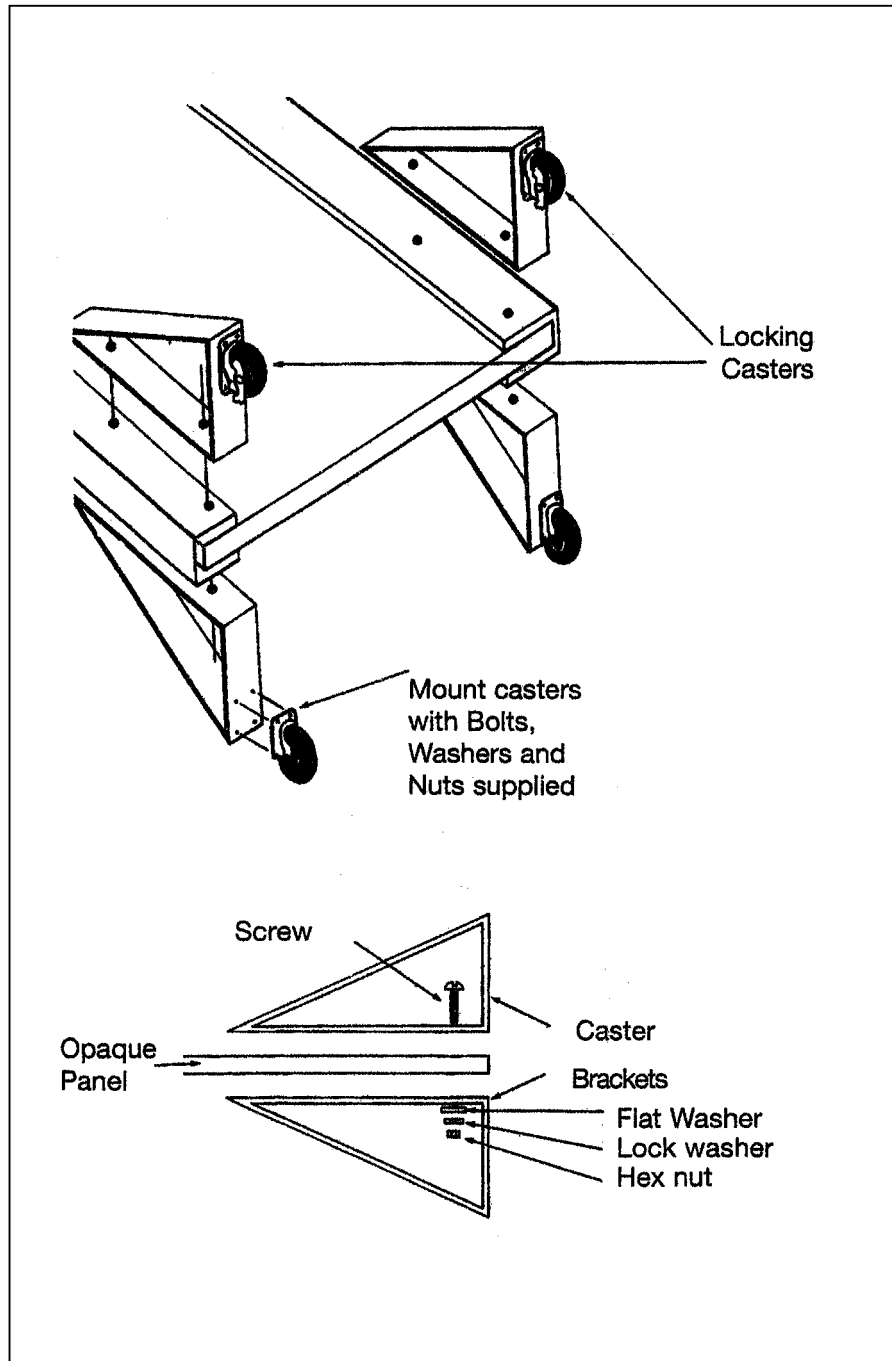

Figure 2-2. Brackets to Panel Assembly
- 2.1.2 If the vertical side channels are not welded to the lower panel, position them over the edges as shown. The pre-drilled holes in the caster brackets and vertical side channels will line up with the holes in the lower panel. Using the supplied hardware (screws, washers and nuts), attach the brackets to the panel (see Figure 2-2).
For maximum safety convenience, the locking casters should be on the same side of the panel (see Figure 2-2).
2.1.3 If the casters are not already attached to the brackets, attach them by lining up the holes in the brackets with those in the casters. Using the caster mounting hardware, (hex bolts, washers and nuts), attach them as shown in Figure 2-2.